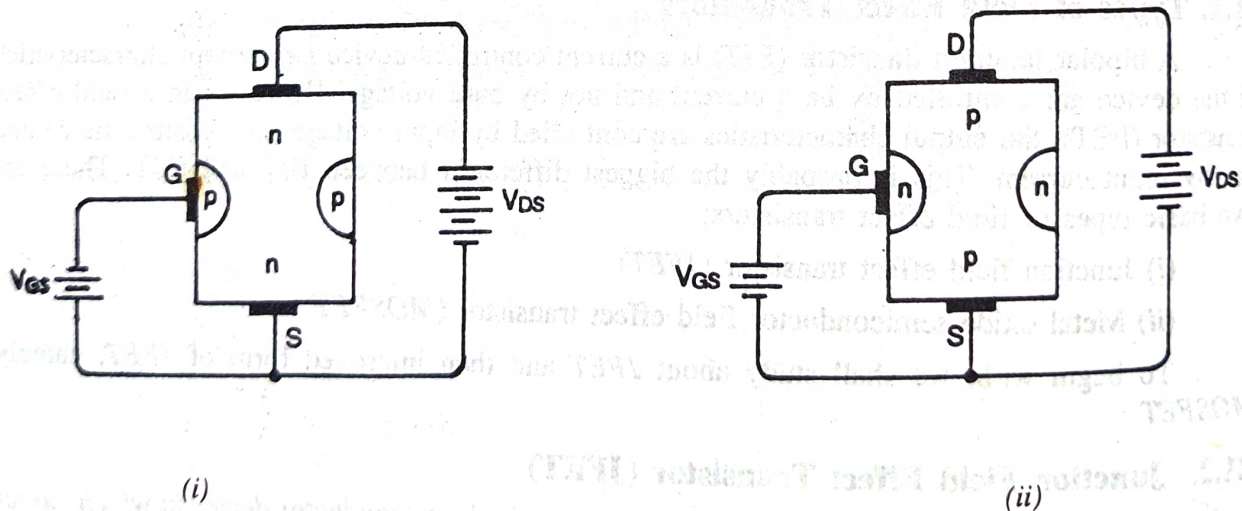

Fig. 21.2
**JFET polarities.** Fig. 21.2 (i) shows *n-channel JFET* polarities whereas Fig. 21.2 (ii) shows the *p-channel JFET* polarities. Note that in each case, the voltage between the gate and source is such that the gate is reverse biased. This is the normal way of *JFET* connection. The drain and source terminals are \*interchangeable i.e., either end can be used as source and the other end as drain.